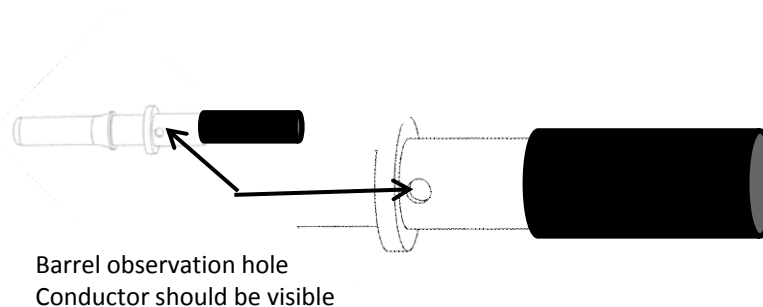

Figure 3.
2. Insert striped cable into contact barrel insuring all conductor strands are captured in the contact barrel and the conductor is visible in the contact barrel observation hole. See Figure 3.